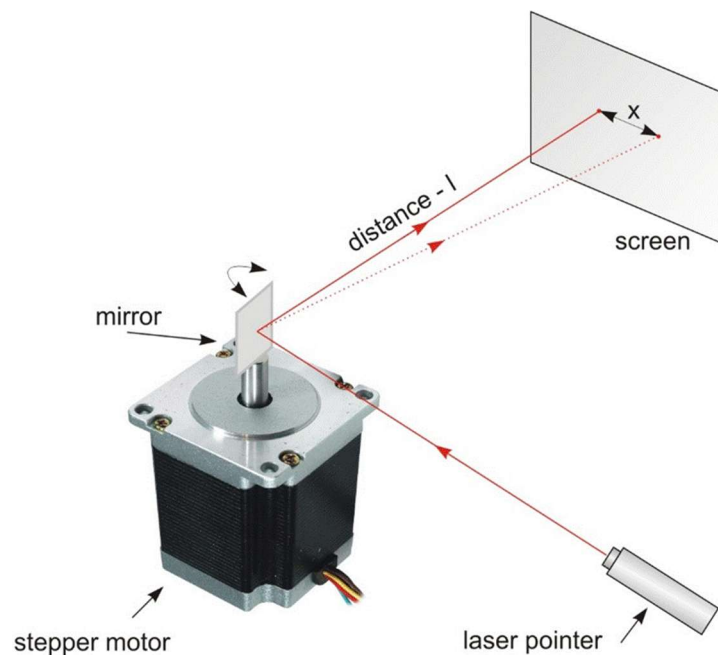

Figure 4. Measurement setup for stepper motor resolution determination (alternatively the laser pointer can be fixed on motor shaft).
4. Using above setup in Figure 4 determine maximum motor speed for different operation modes; perform a few steps forward and reverse with small speed and observe if the laser spot return to its start position; increase speed (*decrease the delay between steps*) and determine the speed when final laser spot position change (motor steps will be lost); Repeat this for current amplitudes (different jumper position P1x-P2x) – Tab.1